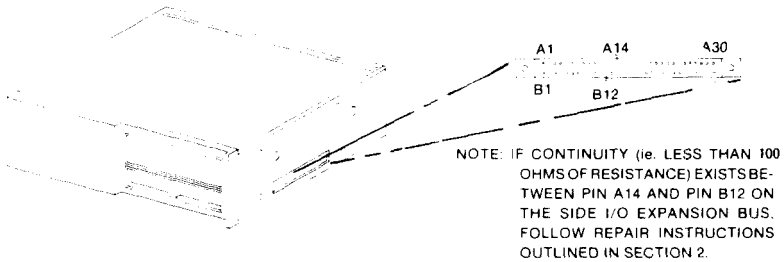

FIGURE 1
D. Obtain an OHM meter or continuity checker. (If you don't have one, you might borrow one as they are quiet common. You might be able to borrow one from your computer dealer or a fellow computer user. If you can't find one, you may arrange to borrow one from Racore by calling Field Service.) Use figure 1 to locate pins A14 and B12 on the side I/O expansion port. If the continuity checker indicates a closed circuit or if the OHM meter indicates less than 100 Ohms between these two pins, your PCjr has a problem. If your PCjr has a problem go to step 2, if not proceed to look for another cause of malfunction noted in step 1B.